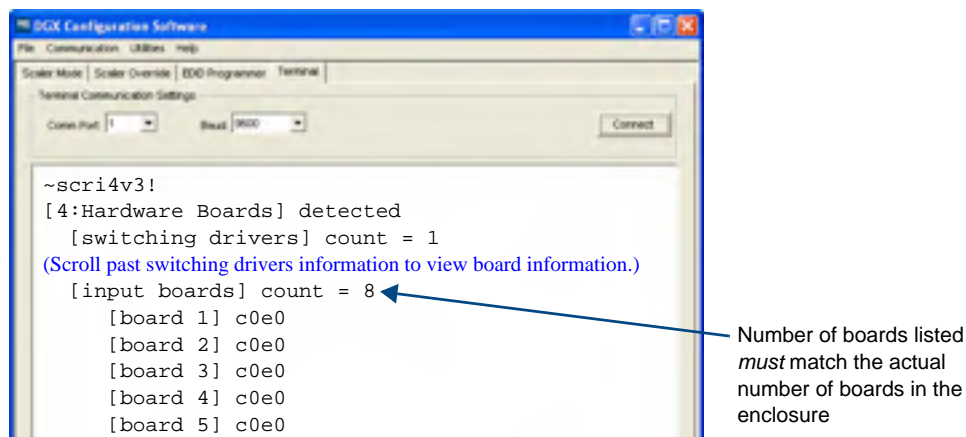

FIG. 108 Splash screen showing boards in the system (Enova DGX 32 example with 8 input boards)
- g. Check to be sure the new board is included in the input or output boards list (FIG. 108). (Audio Insert/Extract Boards are listed under “expansion boards.”) If not, re-seat the board and enter the command again. (*Do not disconnect the terminal program until after Step 14 is successful.*)